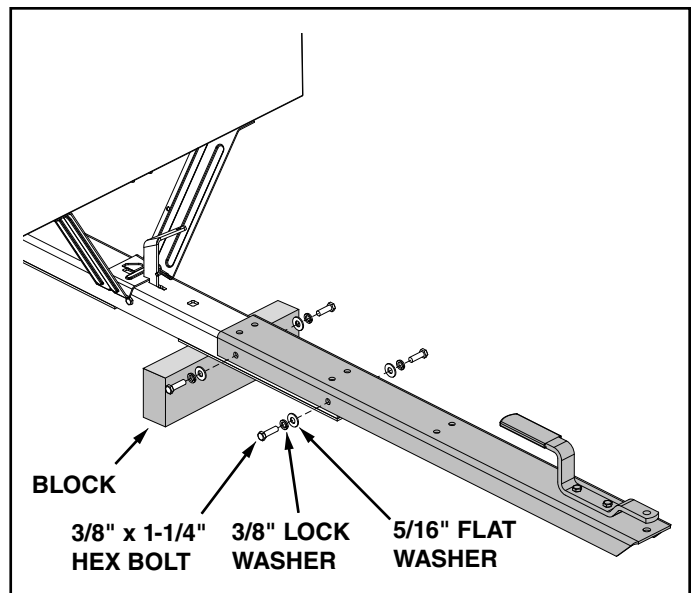

FIGURE 3
6. Assemble the front tongue on top of the rear tongue using four 3/8" x 1-1/4" hex bolts, 3/8" lock washers and 5/16" flat washers. See figure 3.